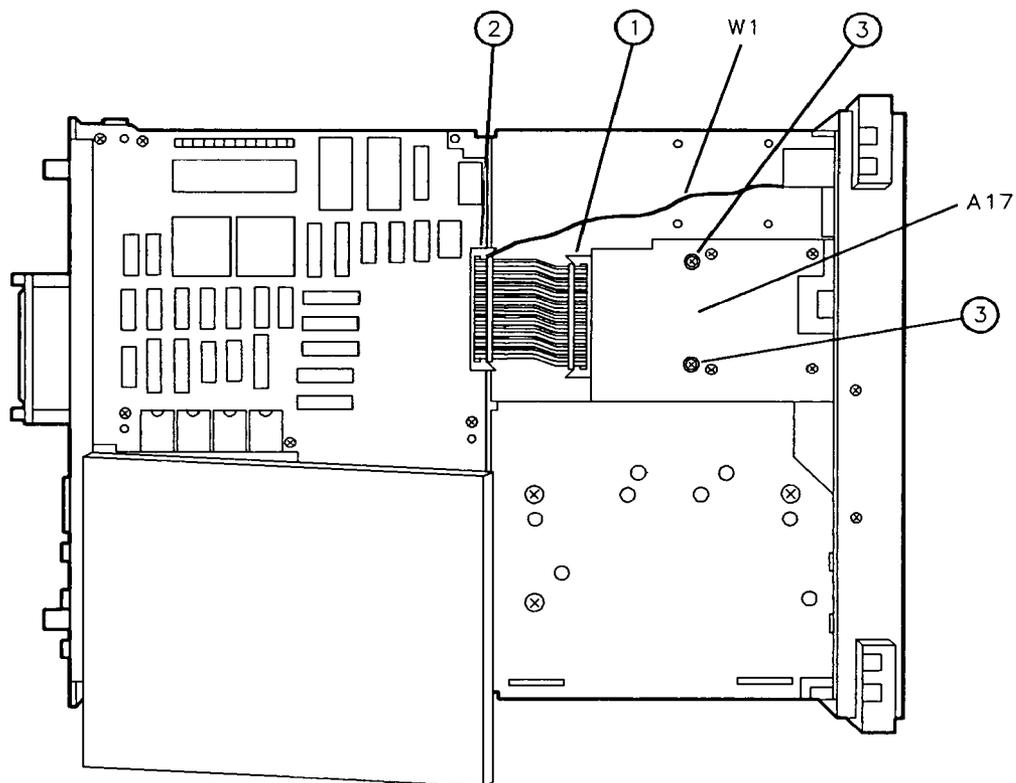

Figure 3-18. Removing the Memory Card Reader
8. Disconnect ribbon cable W14 (1) from the A17 Memory Card Reader assembly. See Figure 3-18.
9. Disconnect W1 at A16J9 (2). (A16J9 is next to the ribbon cable connector that you disconnected in the last step.)